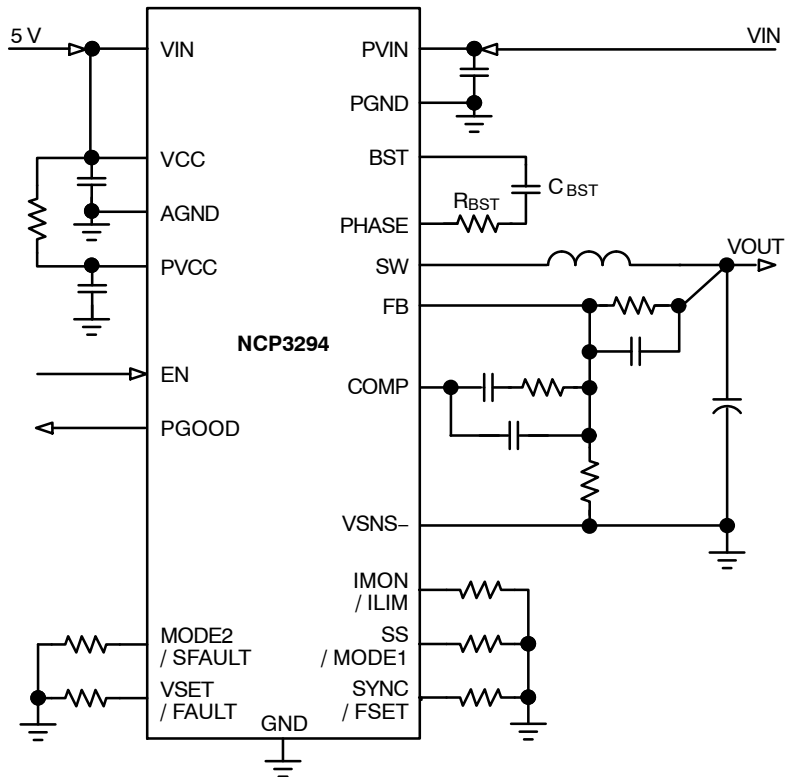

Figure 2. Typical 12 V_{IN}, 25 A Application Circuit with External 5 V VCC Supply (LDO Disabled)
5. Operation at $<4.5V_{IN}$ requires external 5 V supply be applied to the VIN and VCC pins per Figure 2.